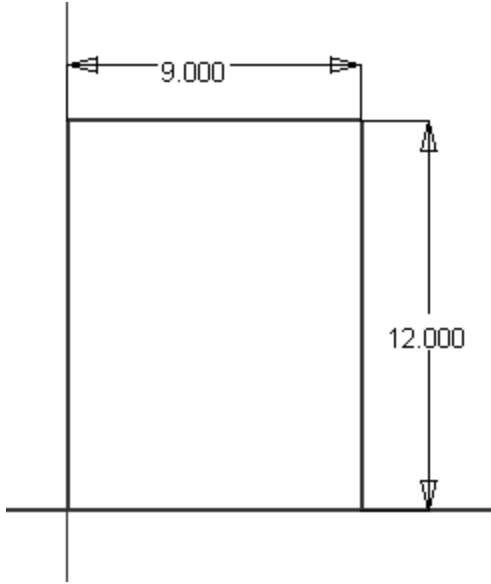

Figure 2: Sketch dimensions.
3. Create a rectangle and dimension it as shown in Figure 2.